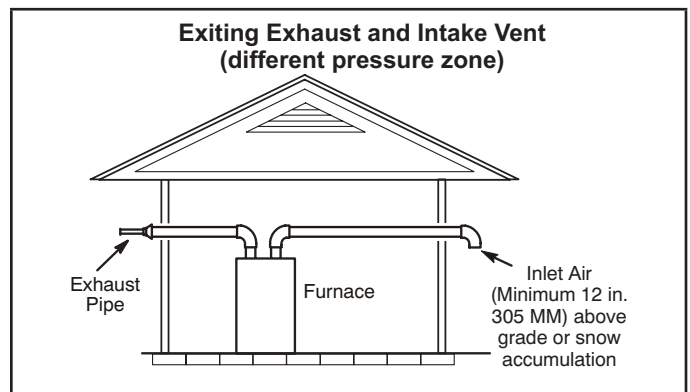
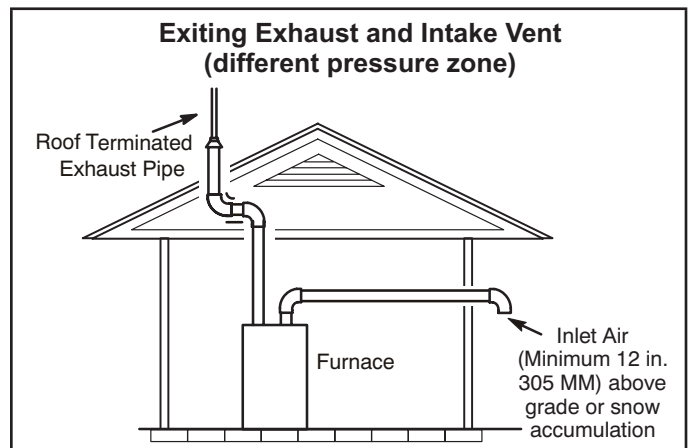

FIGURE 35
FIGURE 36
- 1 - Intake and exhaust terminations are not required to be in the same pressure zone. You may exit the intake on one side of the structure and the exhaust on another side ("FIGURE 35"). You may exit the exhaust out the roof and the intake out the side of the structure ("FIGURE 36").